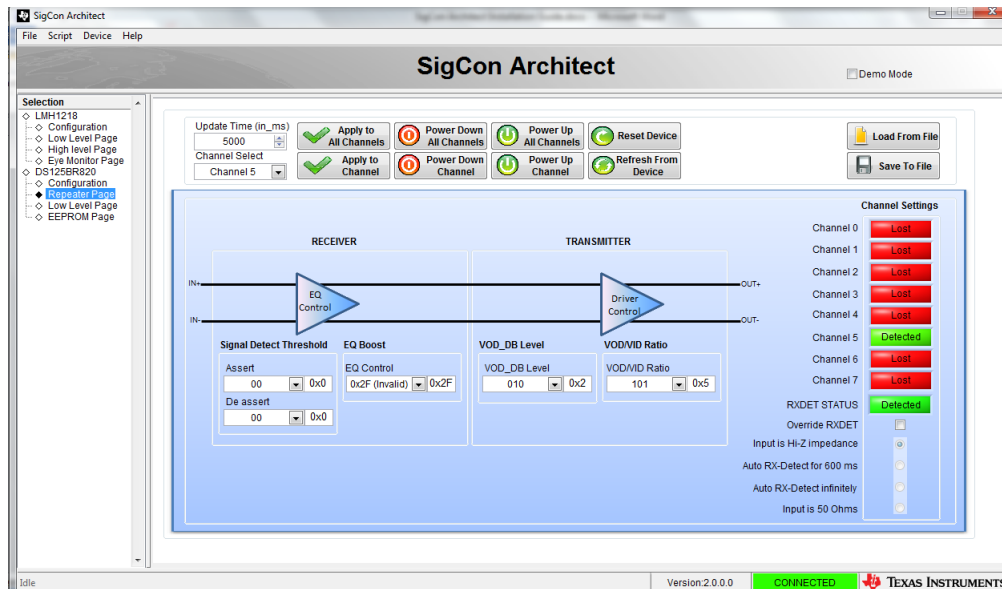

Figure 34. Repeater Page with Device Connected
11. Select the “Repeater Page” on the DS125BR820 profile. The page should look similar to Figure 34. Notice that the status on the right side of the page says “Detected” for the active channel under test (Channel 5).